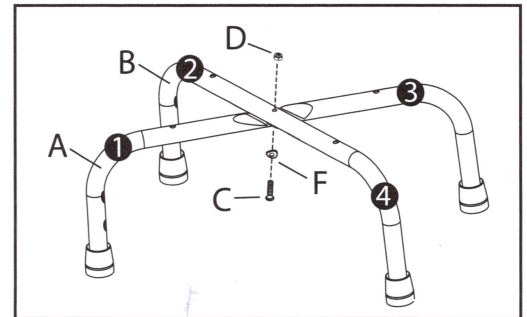

Fig. 1
1. In the upright position, crisscross and overlap the Leg Assemblies (A) and (B) so the flattened areas of the tubing are flush at the center. The Leg Assembly (B) labeled (2) and (4) should be on top. **IMPORTANT:** Be sure the leg ends labeled (1) and (2) are positioned on the left while facing, as shown in Fig. 1. These leg ends have holes for mounting the handrail.
Next, Insert the 1-3/8" Base Screw (C) through a Washer (F) and place through both Leg Assemblies from underneath, and secure with a Nylon Insert Lock Nut (D) as shown in Fig. 1. Using a phillips head screwdriver, tighten the screw by turning clockwise with the supplied wrench secured on the lock nut. **DO NOT OVER TIGHTEN AS IT COULD STRIP THE THREADS.**